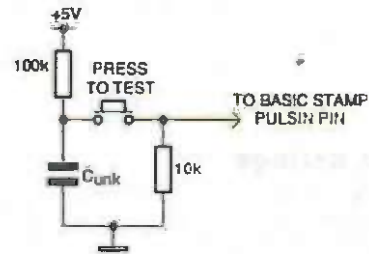

Figure 3. Schematic for listing 3, cap.bas.
The simple circuit in figure 3 charges a capacitor, and then discharges it across a resistance when the button is pushed. This produces a brief pulse for pulsins to measure. Since the time constant of the pulse is determined by resistance (R) times capacitance (C), and R is fixed at 10k, the width of the pulse tells us C. With the resistance values listed, the circuit operates over a range of .001 to 2.2  $\mu$ F. You may substitute other resistors for other ranges of capacitance; just be sure that the charging resistor (100k in this case) is about 10 times the value of the discharge resistor. This ensures that the voltage at the junction of the two resistors when the switch is held down is a definite low (0) input to the Stamp.